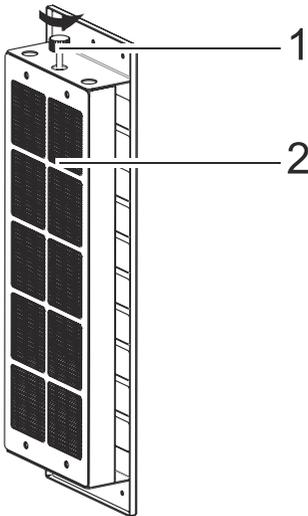

Fig. 8
2. ➔ Remove the connection screw of the active carbon filter (Fig. 8/1) by turning in the direction of the arrow.